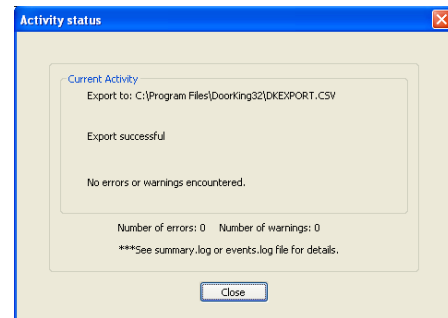

Figure 68
4. Click OK or cancel. Once the export file has been created, the activity status window will display and advise if your export was successful (Fig 68).